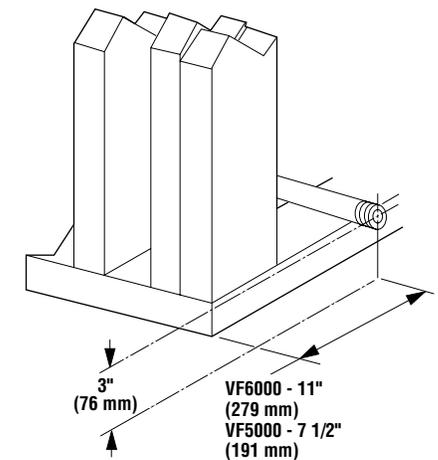

Figure 10
**Step 2.** Route a 1/2" (13 mm) gas line along the left or right side framing (Figure 10).